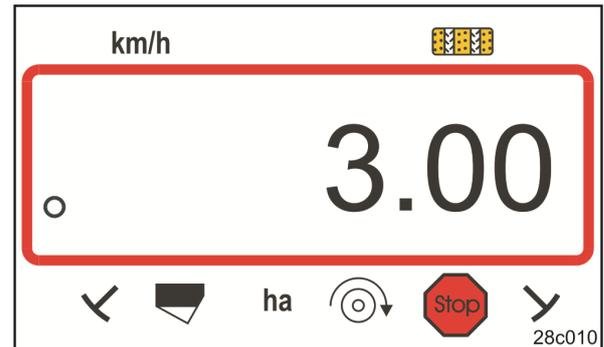

Fig. 15
- Display: stored working width [m], e.g. 3.0 m (Fig. 15).